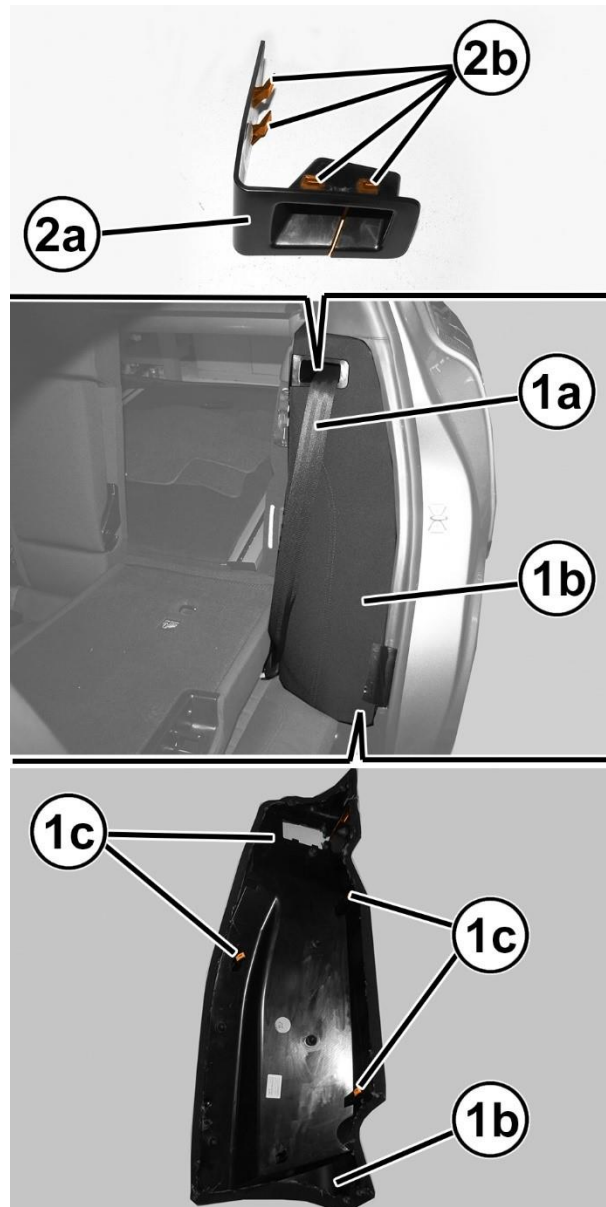

Figure 33 – Rear Seat Bolster
39. Check that the rear seat bolster (1b) is not damaged (Figure 33).
40. Guide the seat belt (1a) through the slot then install the rear seat bolster (1b) and engage the retainers (1c) (Figure 33).
41. Guide the seat belt (1a) through the slot in the seat belt bezel (2a) then engage the retainers (2b) to install the bezel on the rear seat bolster (1b) (Figure 33).